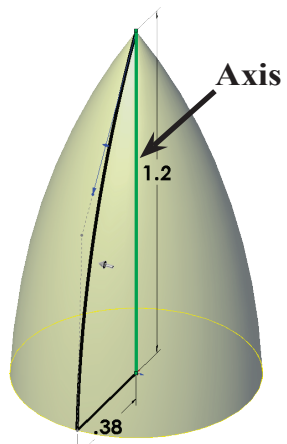

Fig. 8
Step 3. In the Revolve Property Manger for the Axis of Revolution , click the **vertical line of sketch**, **Fig. 8**.